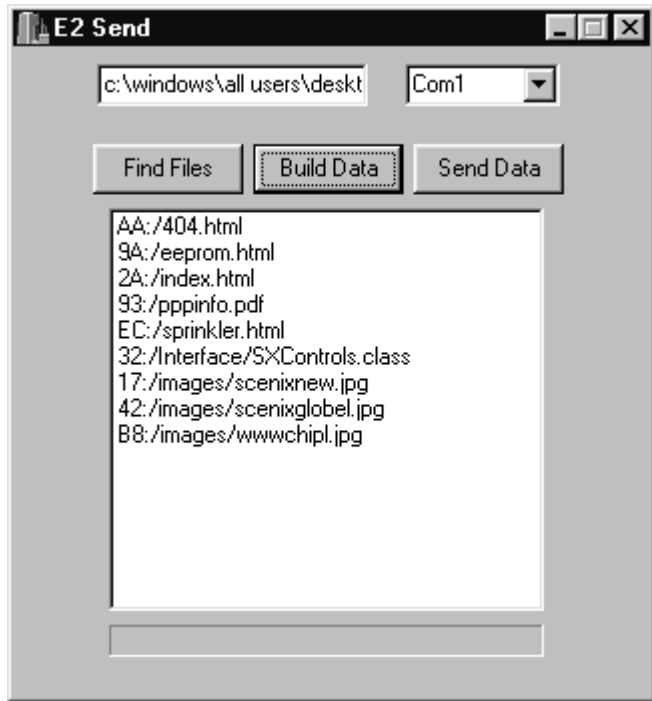

Figure 2-7. E2send Dialog Box
5. In the E2 Send dialog box, set the communications port to Com1 (or whatever port you want to use). See Figure 2-7.